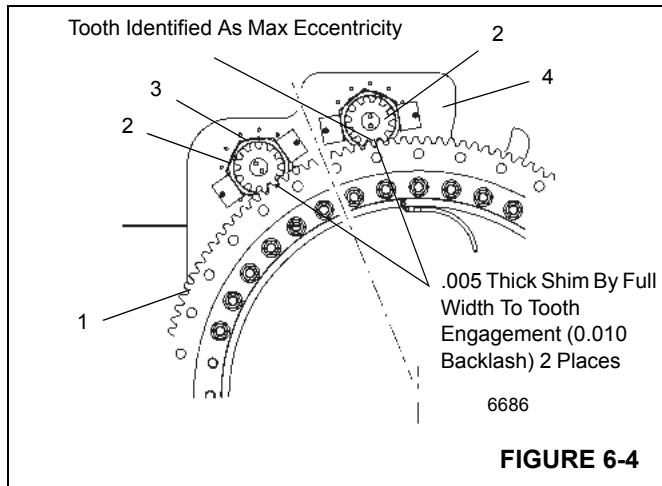

FIGURE 6-4
5. Orient ring gear such that its point of max eccentricity ("high point") is located between the swing drives. Position swing drives so that pinion is centered within cutout in base plate and motor ports face towards the outboard side (Figure 6-4).